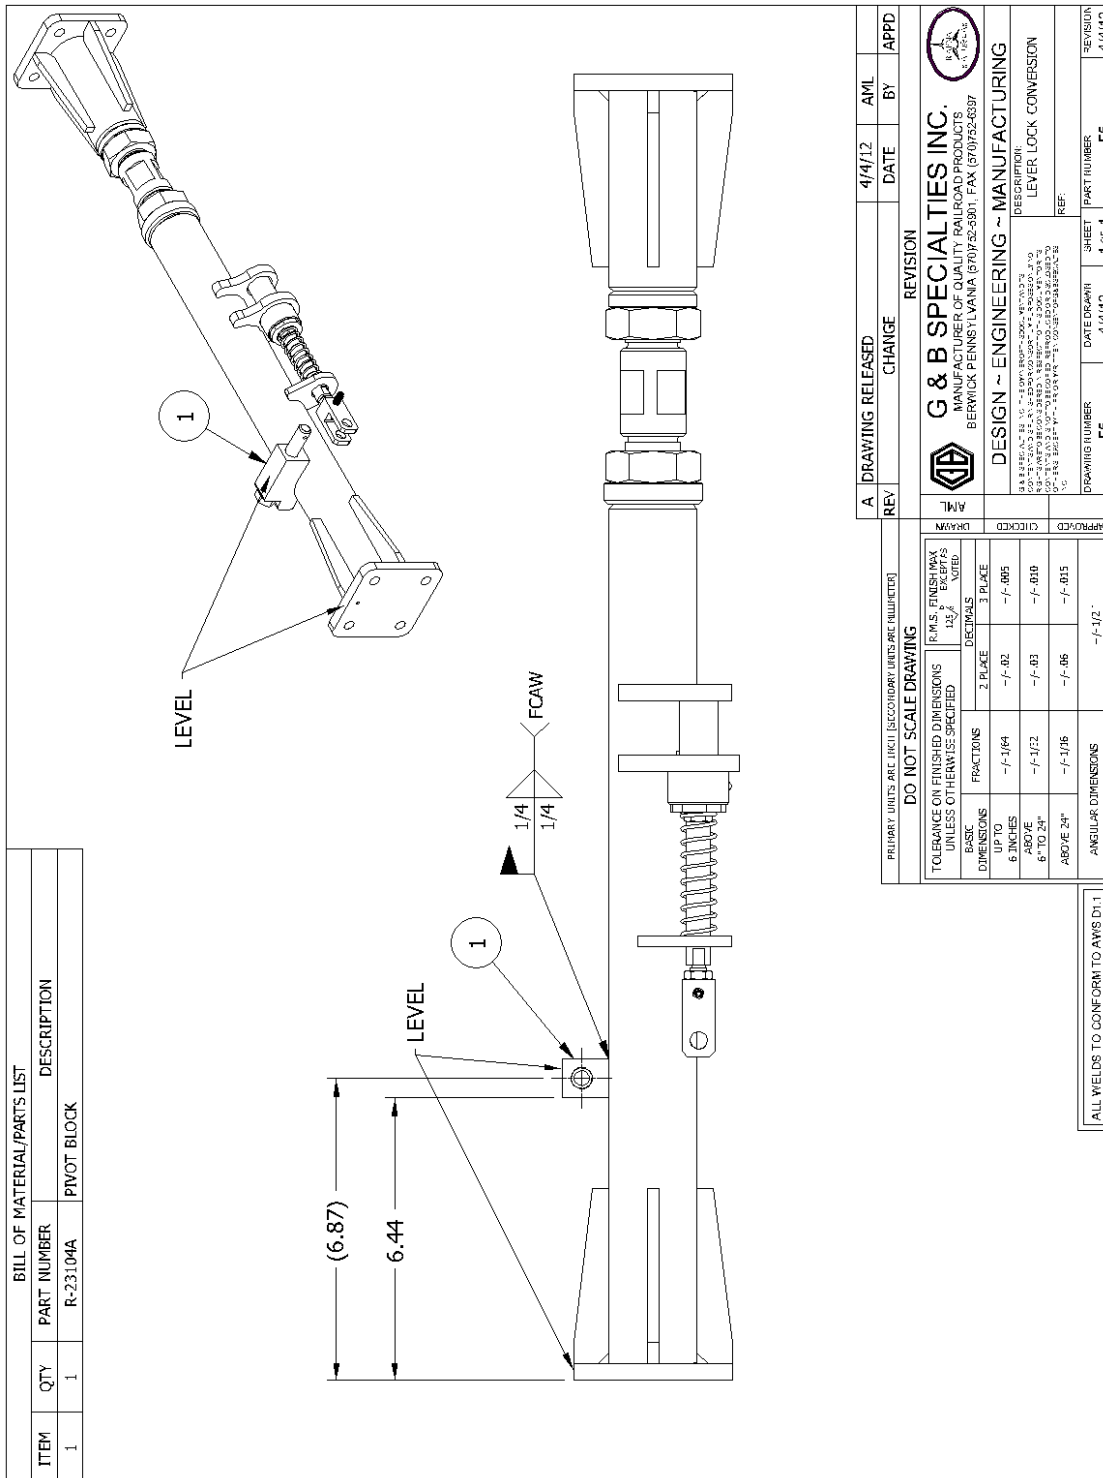

Figure 5
11. Locate and weld in position the pivot block assembly. The top surface of the pivot block should be level with the top surface of the lock bar mounting plate (Figure 5)